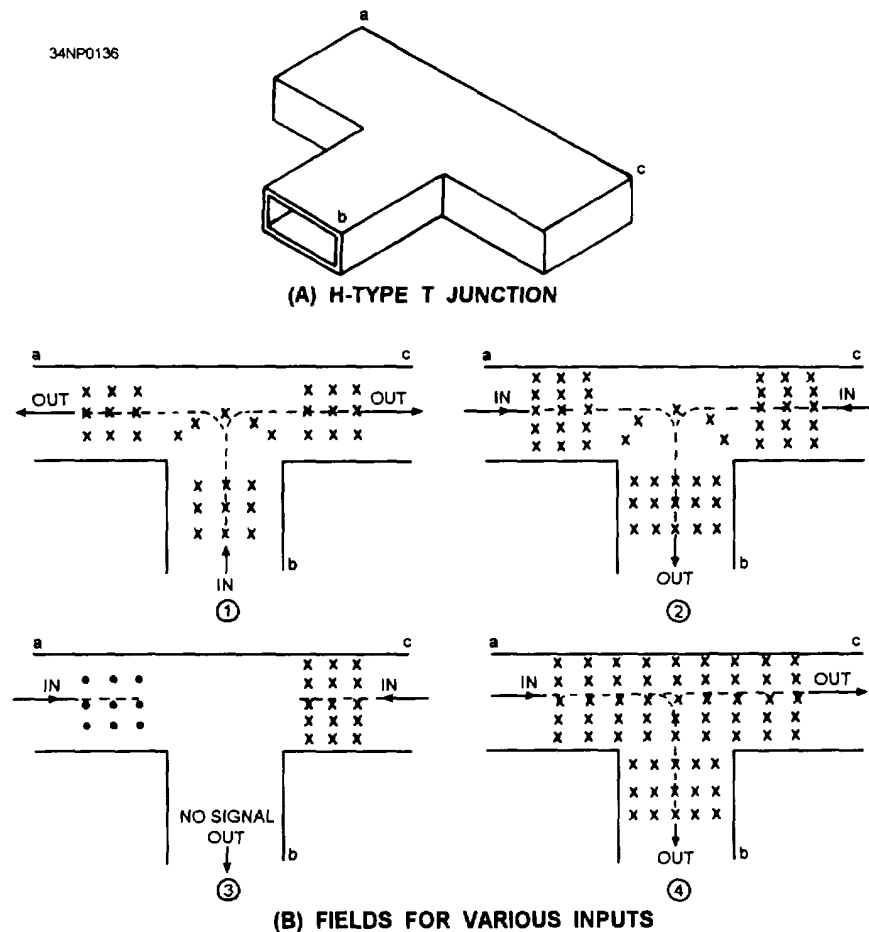

Figure 3-63.—E field in an H-type T junction.
**H-TYPE T JUNCTION.**— An H-type T junction is illustrated in figure 3-63, view A. It is called an H-type T junction because the long axis of the “b” arm is parallel to the plane of the magnetic lines of force in the waveguide. Again, for simplicity, only the E lines are shown in this figure. Each X indicates an E line moving away from the observer. Each dot indicates an E line moving toward the observer.
In view 1 of figure 3-63, view B, the signal is fed into arm b and in-phase outputs are obtained from the a and c arms. In view 2, in-phase signals are fed into arms a and c and the output signal is obtained from the b arm because the fields add at the junction and induce E lines into the b arm. If 180-degree-out-of-phase signals are fed into arms a and c, as shown in view 3, no output is obtained from the b arm because the opposing fields cancel at the junction. If a signal is fed into the a arm, as shown in view 4, outputs will be obtained from the b and c arms. The reverse is also true. If a signal is fed into the c arm, outputs will be obtained from the a and b arms.